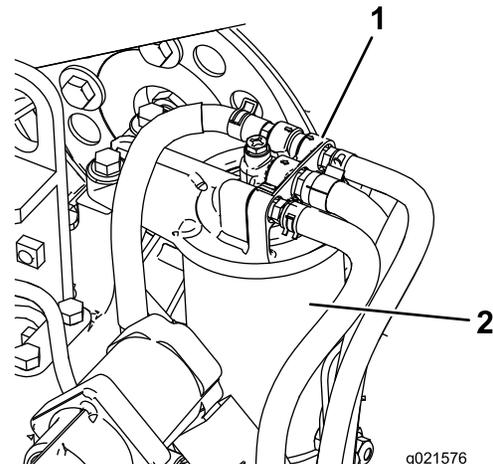

Figure 64
1. Clean the area around the fuel filter head (Figure 64).
2. Remove the filter and clean the filter head mounting surface (Figure 64).